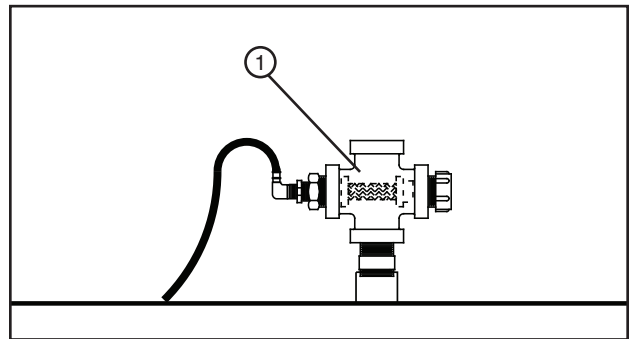

Figure 107-2 1. Cross Filter
- Clean the end gun shut off solenoid valve cross filter or optional dirty water filter. See figures 107-2 and 107-3.